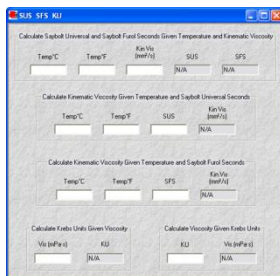

Figure 19: Conversion Window
1. Select SUS, SFS, and Krebs Units from the **Applications** menu. This opens the conversion window as shown in Figure 19.